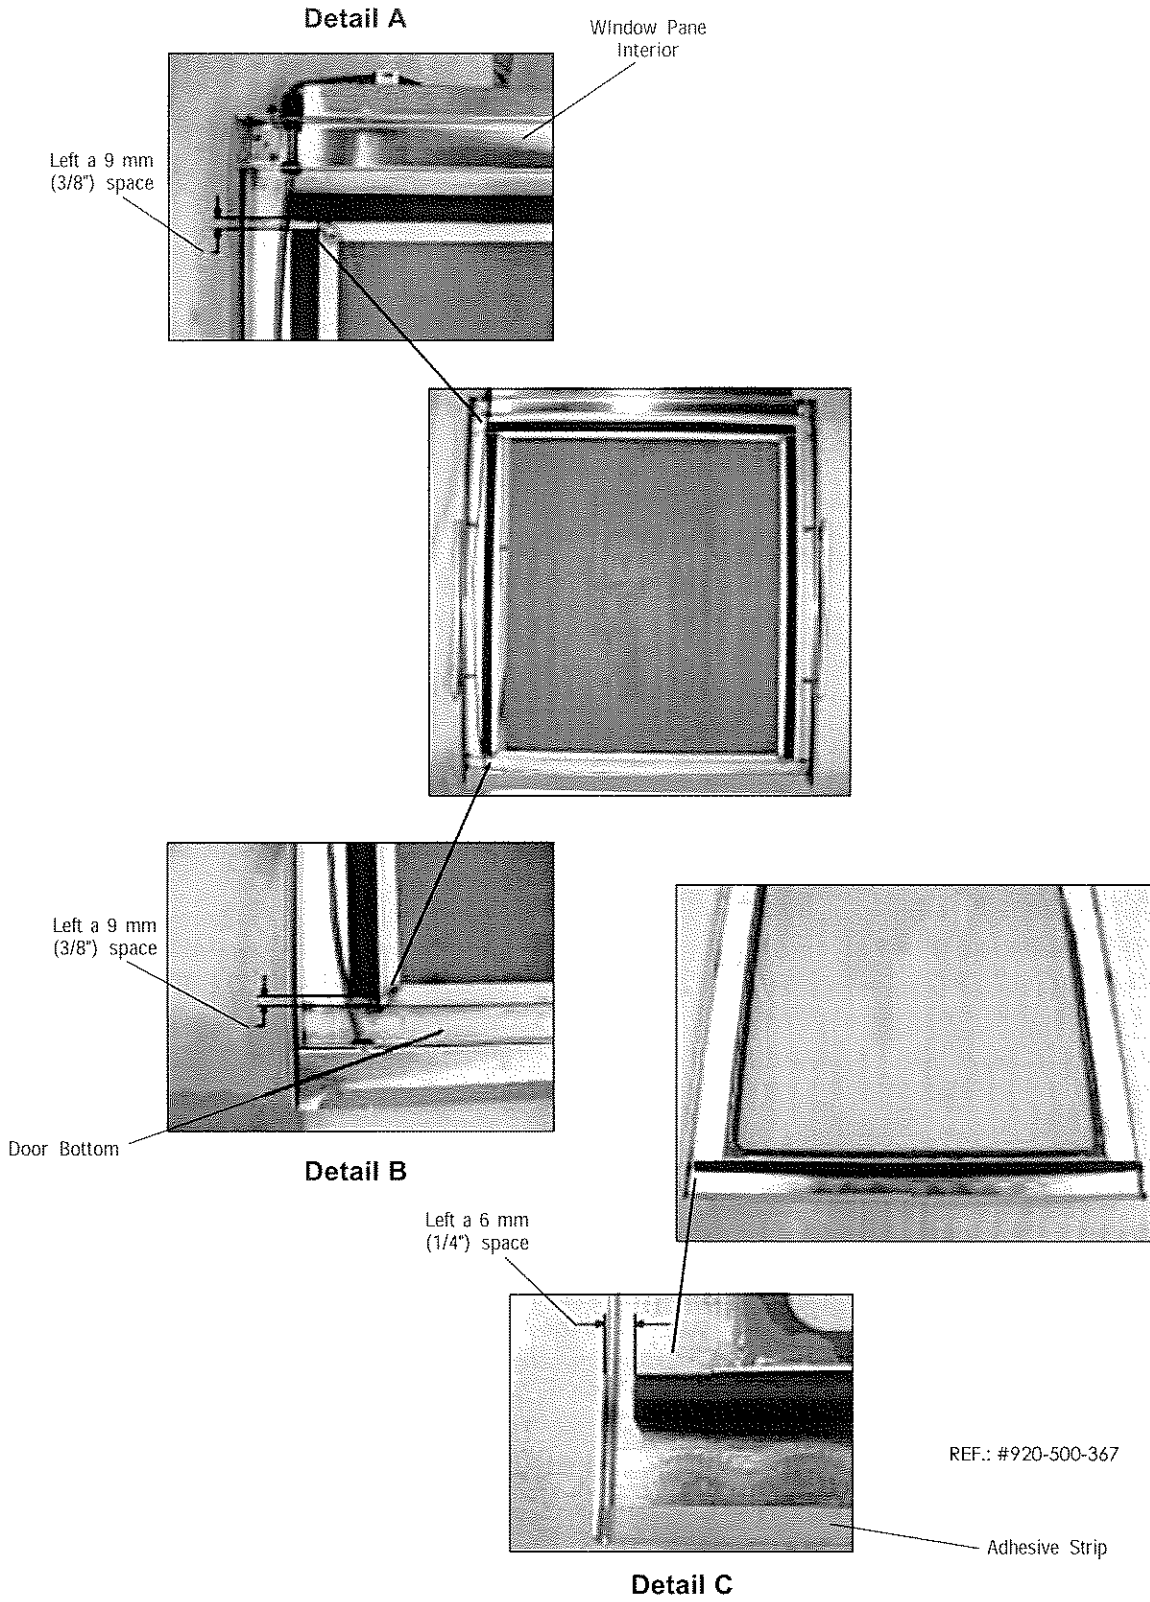

Figure 8-16. Window Pane Gasket Replacement
- b. Cut side gasket to 66 cm (26") long. Install side gasket starting 9 mm (3/8") under top gasket. See Figure 8-16, Detail A.
6. Cut bottom gasket to (27-5/8") long. Start installing bottom gasket at 6 mm (1/4") from side frame and 9 mm (3/8") under side gasket. See Figure 8-16, Details B and C.